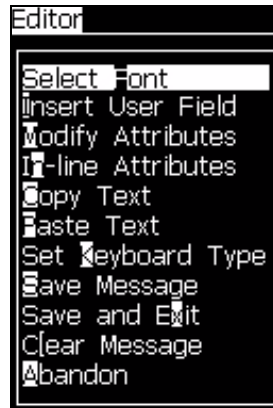

Figure 5-34: Editor Menu
- 1 Press the *Alt+E* keys or press *F1*. The *Editor* menu appears (see Figure 5-34).